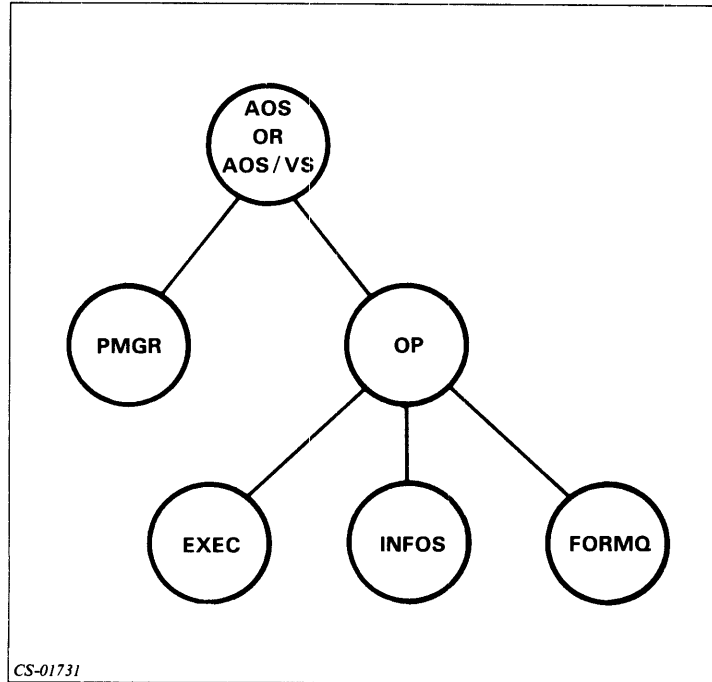

Figure 10.21 Module 10: Quiz Answers
1. Compare your answer to Figure 10.21.